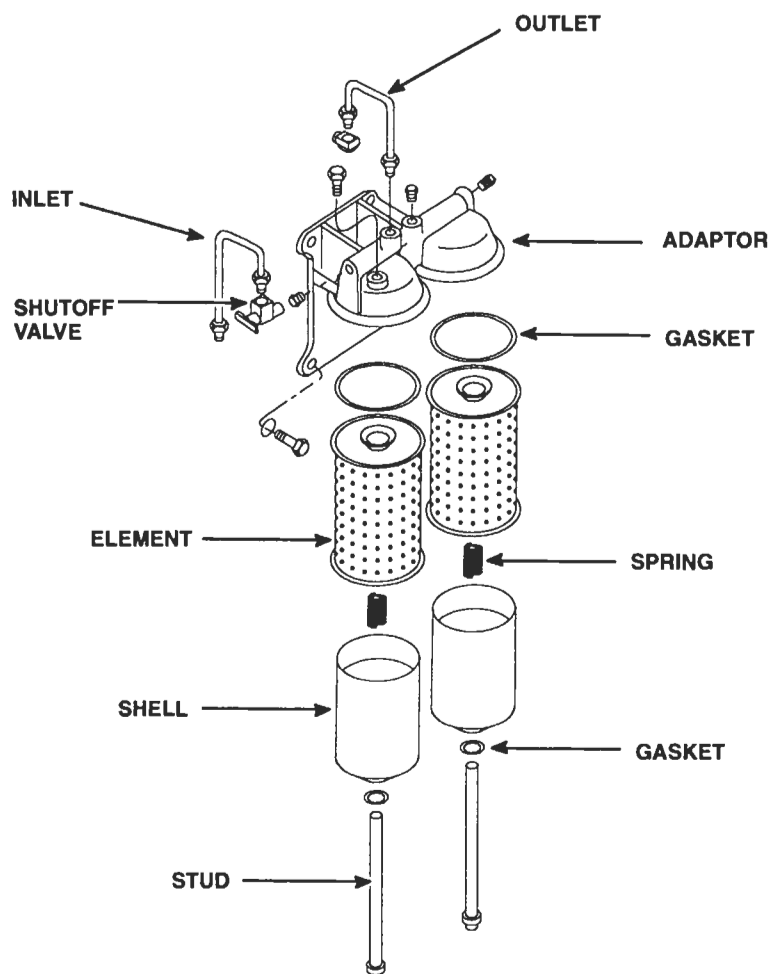

Figure 4. Bypass Type Oil Filter Components
2. Back out the center stud (Figure 4.) and withdraw the shell, element and stud as an assembly. Discard the element and the shell gasket.